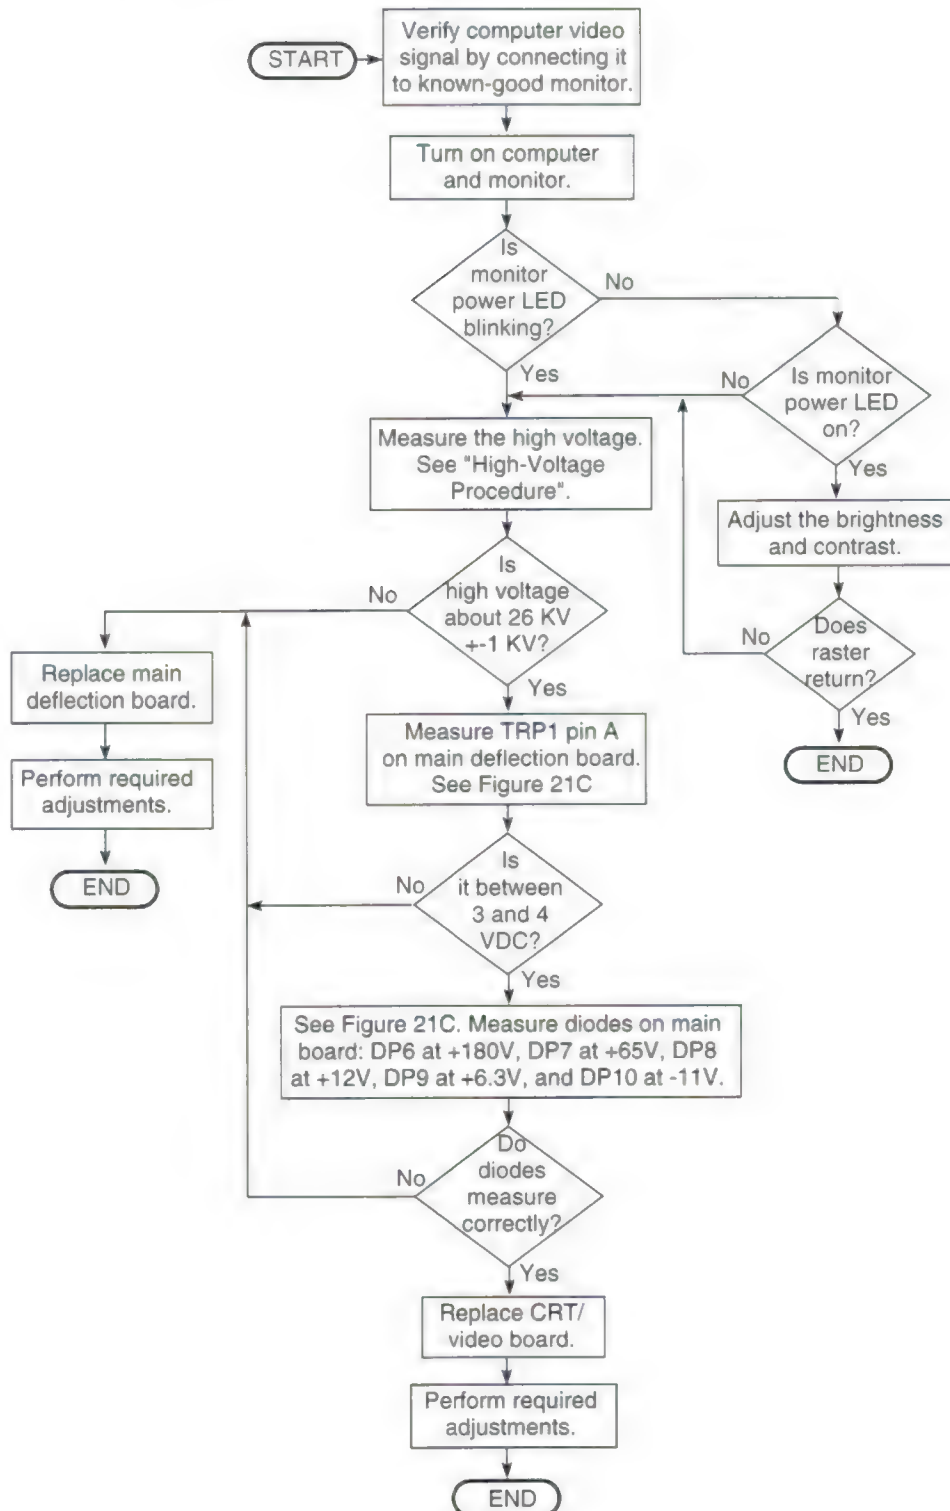

Figure 16. No Video Flowchart
The flowcharts (Figures 16–20) and Figure 21, "Troubleshooting Test Points," that follow this Symptom-Cure Chart provide additional information for identifying problems and possible cures. Use the flowcharts in conjunction with this Symptom-Cure Chart for best results.
No video (See Figure 16)
This high-voltage check is a required procedure in the No Video Flowchart (Figure 16). When the monitor has a No Video condition, the high-voltage check would be the first step in ruling out a main deflection board problem.
9. See Figure 16, "No Video Flowchart."